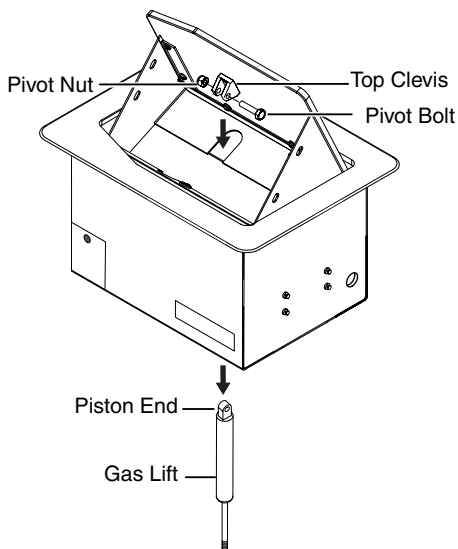

Figure 27. Replacing the Gas Lift, HSA 200 Model
- **HSA 200 models** — Reach through the front panel opening (see figure 27 on the next page).